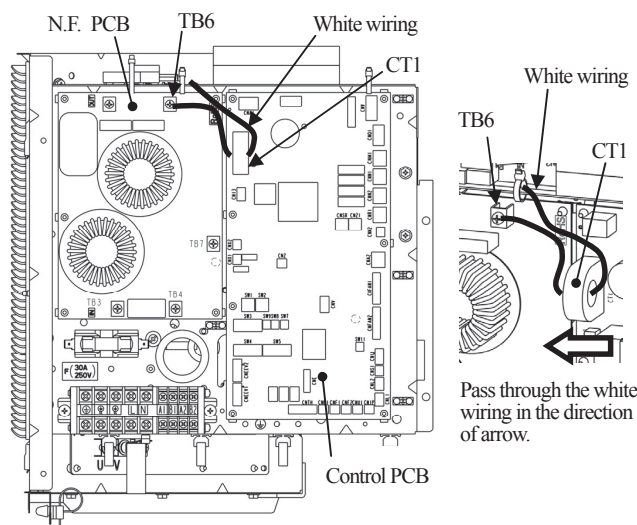

Fig.3 Front view of controller*
3. Disconnect the round terminal from TB6 on the N.F. PCB, and remove the white wiring passing through CT1 on the Control PCB. And then exchange to the new PCB. (Refer to Fig.3)
5. Tighten up a screw to TB6 on the N.F. PCB after passing white wiring through CT1 of the new PCB. (Recommended tightening torque : 1.2 – 1.4 N · m) (Refer to Fig.3)